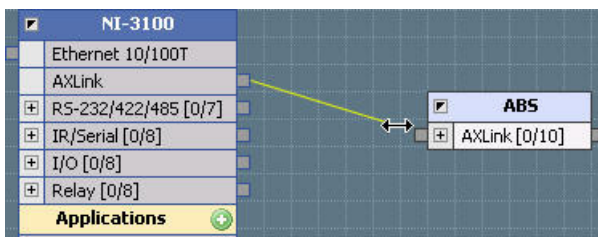

FIG. 117 Drawing a Connection Line between Device Elements in the System Diagram
2. Drag your mouse over an IN Connection Node of a matching type on the Device Element with which you want to connect (FIG. 117):